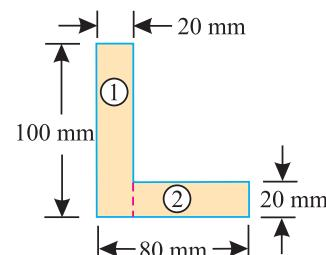

Fig. 7.16.
**Example 7.12.** Find the moment of inertia about the centroidal  $X-X$  and  $Y-Y$  axes of the angle section shown in Fig. 7.16.
**Solution.** First of all, let us find the centre of gravity of the section. As the section is not symmetrical about any section, therefore we have to find out the values of  $\bar{x}$  and  $\bar{y}$  for the angle section. Split up the section into two rectangles (1) and (2) as shown in Fig. 7.16.